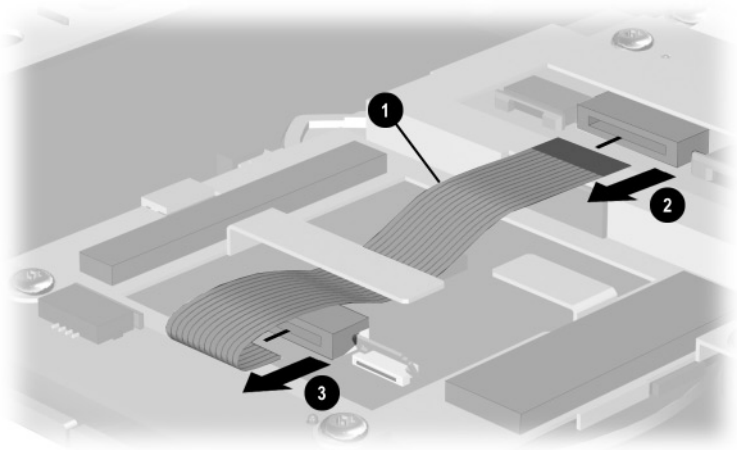

Figure 5-32. Removing the TouchPad-to-TouchButton Board Cable
5. Disconnect both ends of the TouchPad-to-TouchButton board cable ❶ from the low insertion force (LIF) connectors on the TouchPad ❷ and TouchButton board ❸ (Figure 5-32).